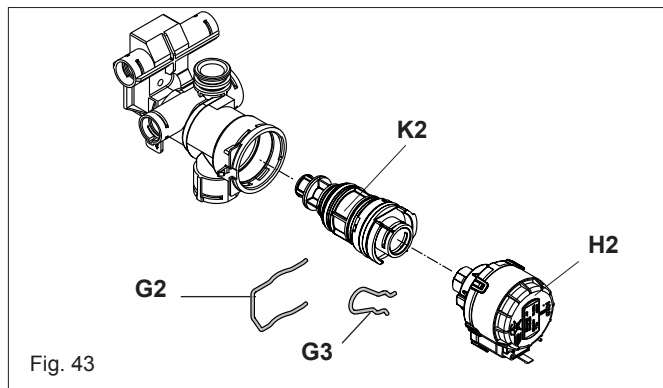

Fig. 43
6.20.3 VALVE ACTUATOR (fig. 43)
6.20.5 DIVERTOR VALVE ASSEMBLY (fig. 43)